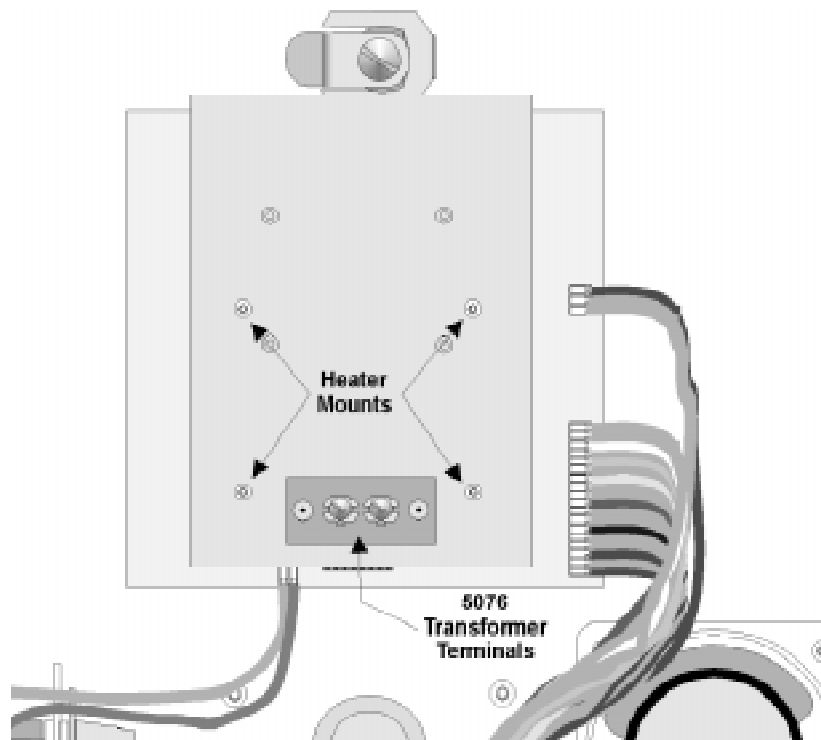

Figure 3-23: View of 5076 Mounted
3. Mount the 5076 on the threaded stand-offs with the #6 nuts and lock-washer provided. (See Figure 3-23.)
4. Connect the 16.5 VAC Class II transformer to the two terminals on the 5076 Heater. (See Figure 3-23.)